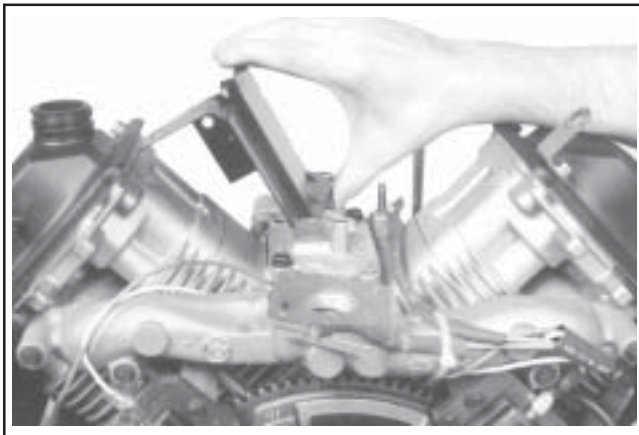

Figure 11-59. Installing Inner Baffles.
7. Install the inner baffles using the two remaining hex flange screws (see Figures 11-59 and 11-60) and finger tighten. **Do not** torque the screws at this time; they will be tightened after the blower housing and outer baffles are installed.